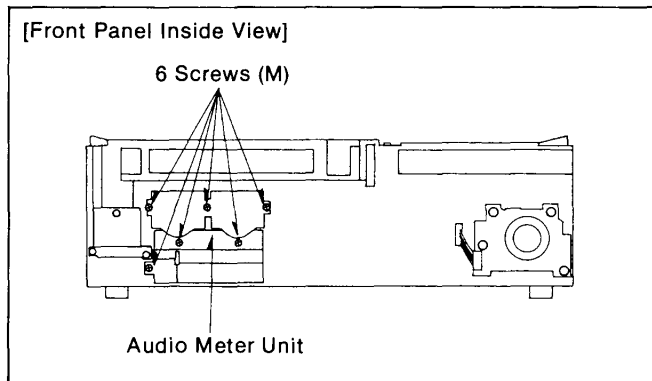

Figure D12
1. Unscrew the 6 screws (M) on the Audio Meter Unit (Figure D12).